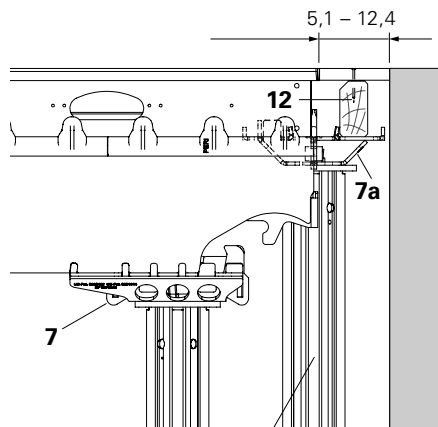

Fig. A5.24
1. Place Main Beam SLT (2) on inset prop with Combihead SCK (7) or Prophead SSK (6).
3. Install Filler Timber SPH (12) or Edge Beam SRT-2 (9).
4. Install formlining and secure in position with nails. (Fig. A5.24 + A5.25)